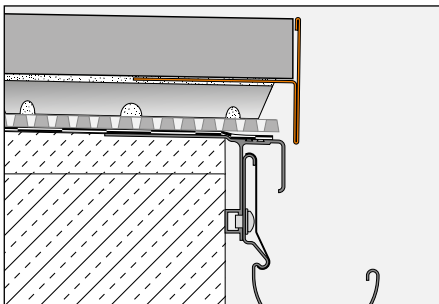

Fig. 3
- 3.3 The self supporting pavers are then laid onto the contact points. When using the stilted construction with Schlüter-TROBA-STELZ-MR (Fig. 3), the profile Schlüter-BARA-RT is integrated into